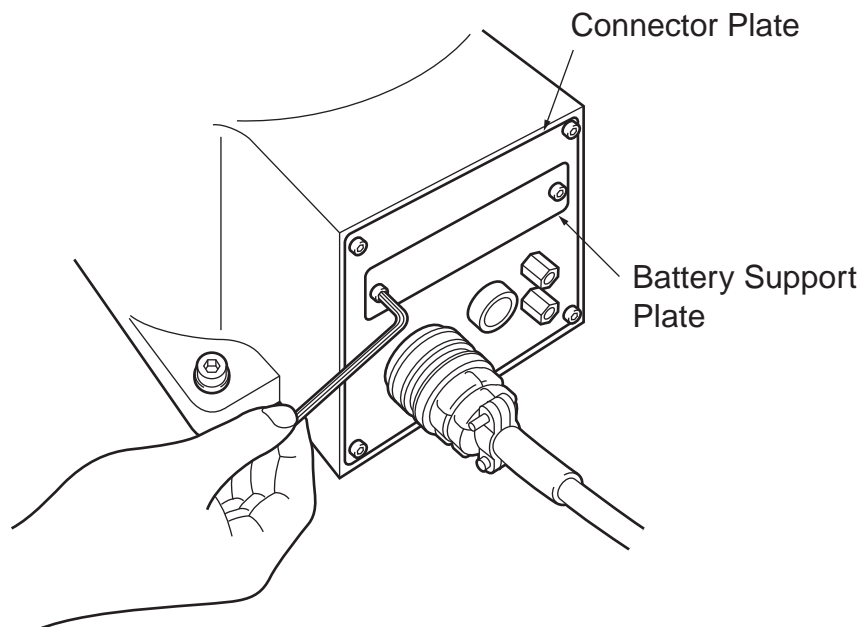

Figure 5-1. Removing Cover to Replace Encoder Batteries
3. Remove the cover from the robot unit. See Figure 5-1.